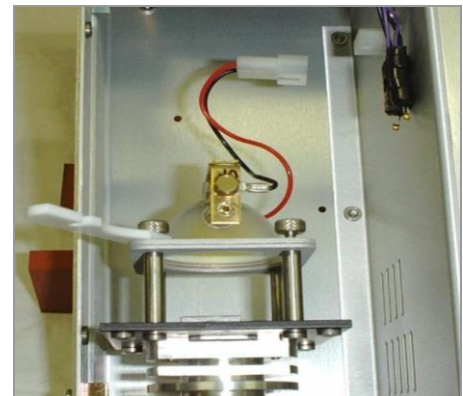

Figure 8. Bulb Removal
- Disconnect the Bulb Plug (Figure 8).
- Loosen the two Thumbscrews and lift the Bulb Retaining Clip (Figure 8)